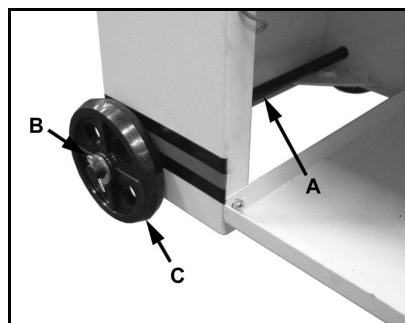

Fig 3
Slide the axle (A, Fig 3) through the swivel base and place one wheel (B) on each side before you secure with the supplied split pins (C).